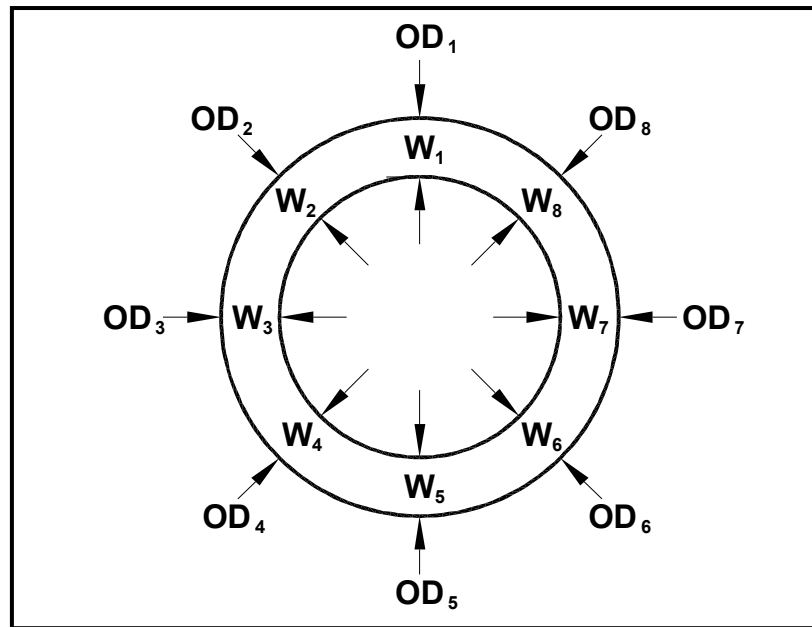

Figure 5: Measuring the OD and Pipe Wall Thickness
4. Now measure the OD and the wall thickness at eight points along the pipe circumference at 45° intervals (shown in Figure 5 below), three times per point, and record the mean values.
2. To determine the GC868 correction factor, calculate the mean inside pipe diameter (ID) and the pipe ID at the transducer locations. Then divide the square of the mean ID by the square of the ID at the transducer location, as shown in the equations below, where OD_x is the outside diameter at a given point, and W_x is the wall thickness at a given point (see Figure 5).